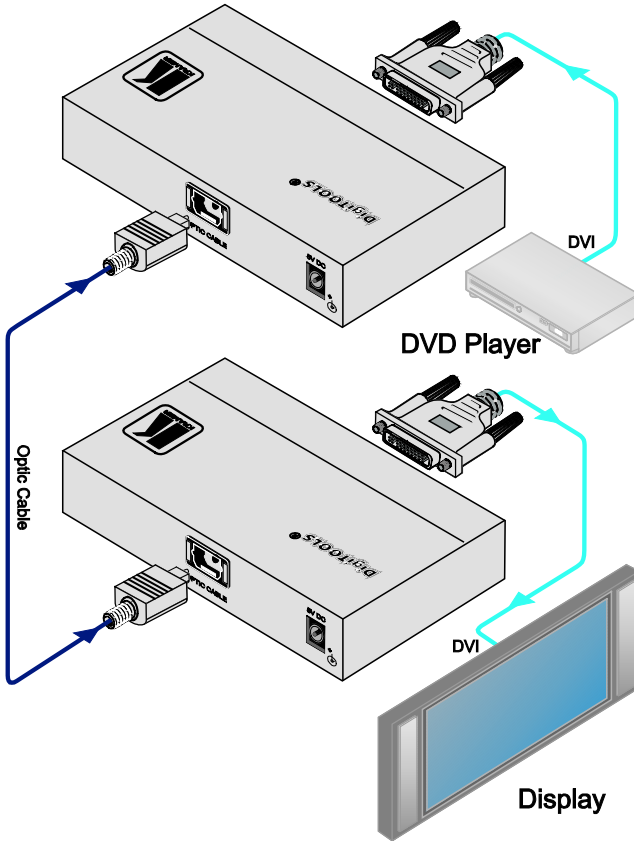

Figure 3: Connecting the 671T/671R Transmitter/Receiver System
| Figure 3: Connecting the 671T/671R Transmitter/Receiver System | 6 |
To connect the **671T** and **671R**, as illustrated in the example in Figure 3, do the following:
4. Connect the 5V DC power adapter to the power socket on each unit and connect the adapter to the mains electricity (not shown in Figure 3).